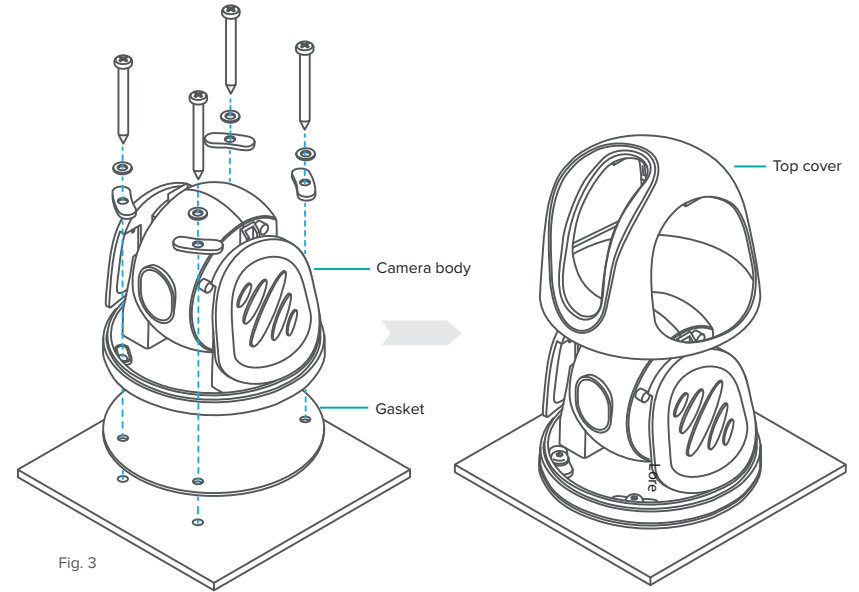

Fig. 3
2. Place the Camera base over the screw holes and secure the Camera with M5 screws, washers, spring washers, and nuts (Fig. 1). If using self-tapping screws, secure the camera with screws type #10 and washers (Fig. 3).